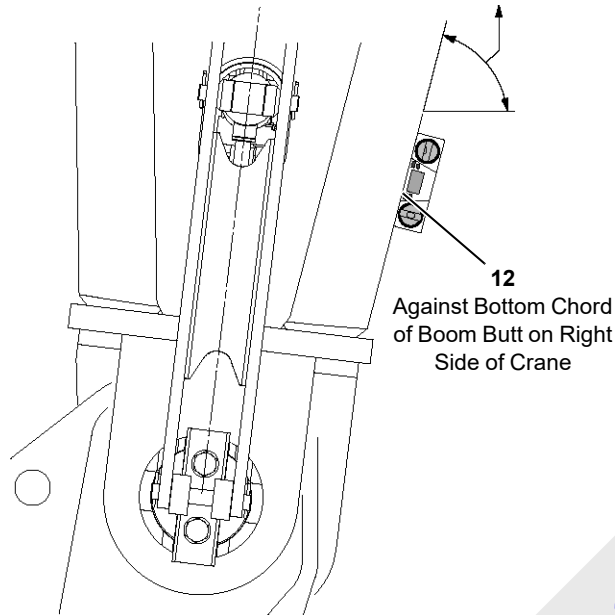

FIGURE 6-8
- Place an accurate digital level (12) on the boom butt as shown in Figure 6-8. The corresponding **Digital Level Angle** should appear on the digital level.